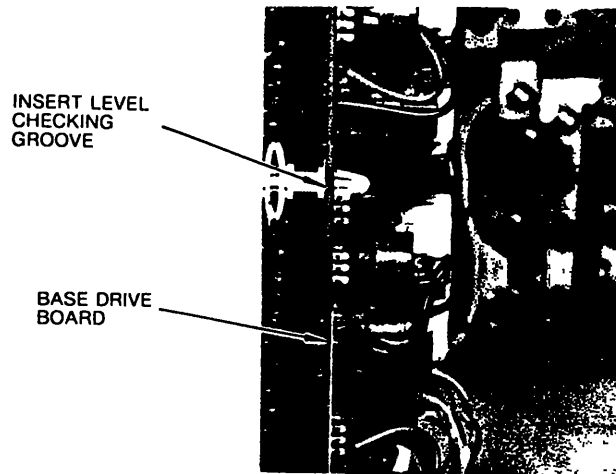

Fig 9.5 Mounting of Base Drive Board
## (2) Mounting Procedures (Fig. 9.5)